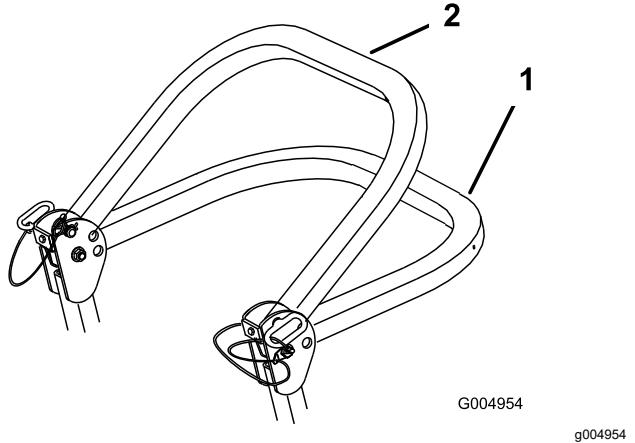

Figure 8
2. Lower the roll bar to the down position (Figure 8).
Note: There are 2 down positions; refer to Figure 8.